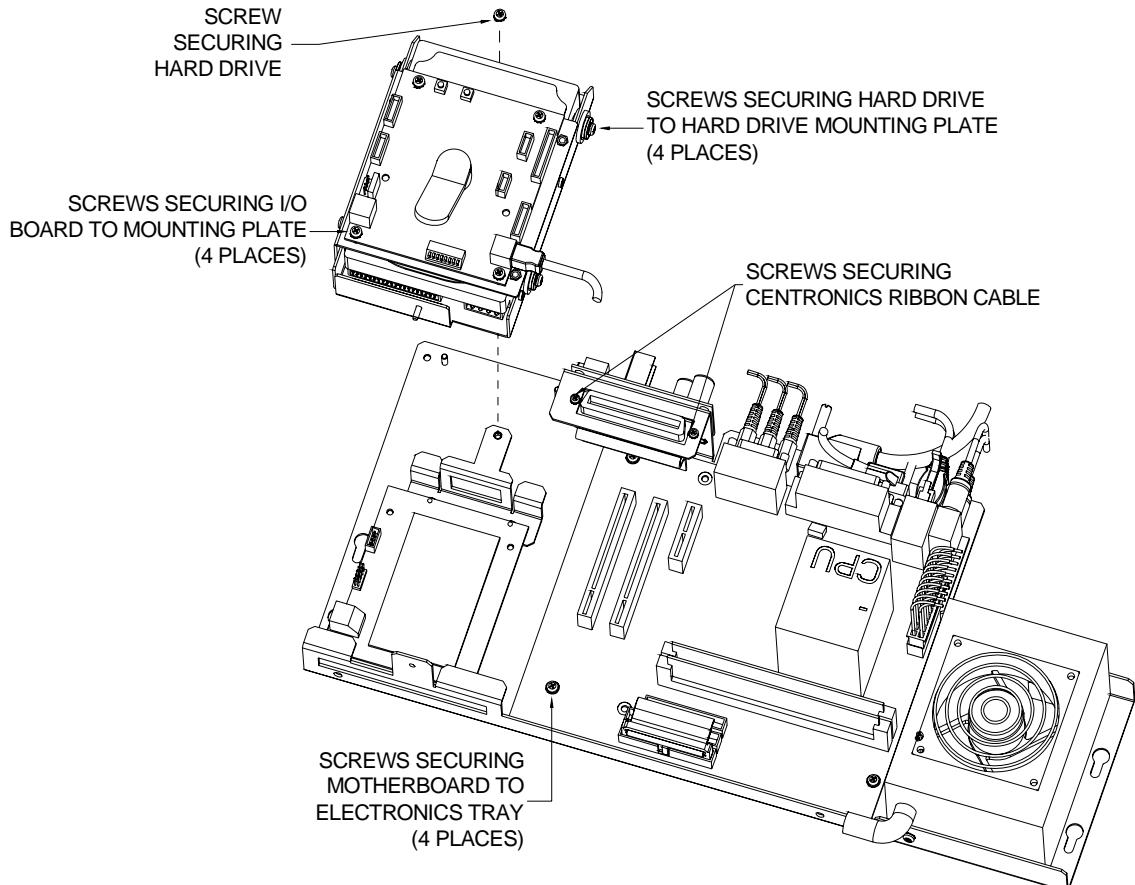
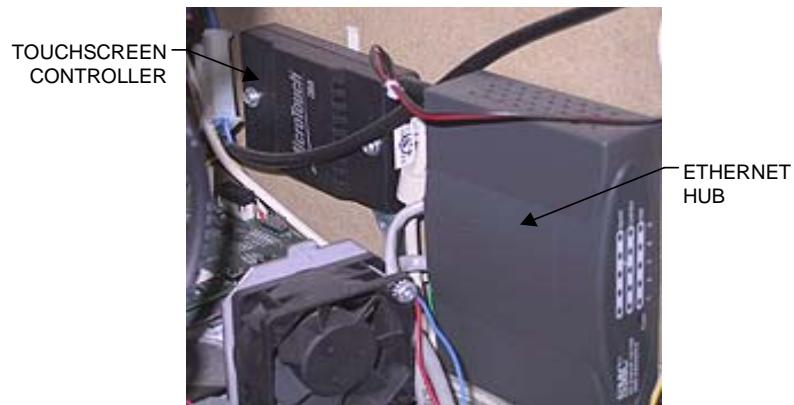

FIGURE 1 - REMOVING HARD DRIVE/MOTHERBOARD
FIGURE 2 - MEGATOUCH COMBO JUKEBOX - INSIDE REAR OF CABINET
3. Remove the nuts fastening the electronics tray to the game. The side wall mounted tray will have 4 nuts (see Figure 1). The bottom mounted tray will have 3 nuts, 2 in the right front corner and 1 on the left side by the power strip (see Figure 2).
5. Remove the 4 screws and shoulder washers fastening the hard drive to the mounting plate on the electronics tray, then slide out the hard drive from under the I/O board until you're able to disconnect the power connector and ribbon cable from the drive. See Figure 2.
1. Place the new hard drive under the I/O board and connect the power connector and ribbon cable to the drive, then fasten the drive to the mounting plate with the 4 screws and shoulder washers (see Figure 2)
2. Replace the electronics tray in the game and fasten it with the same nuts removed in step 3 (see Figure 1 or Figure 2).